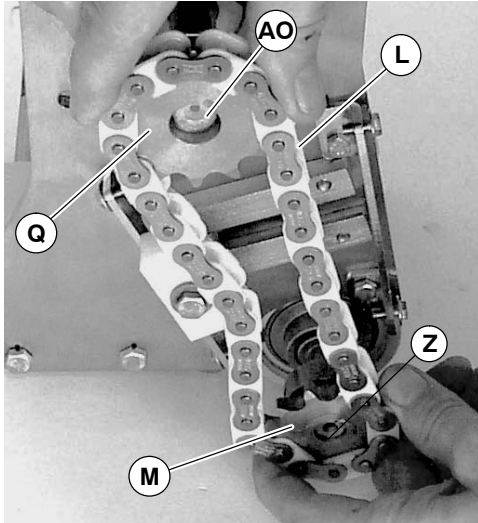

Figure 31
NOTE: Make sure sprocket keys are installed on conveyor input shaft (Z of Figure 31) and gear reducer output shaft (AO).
6. Install timing chain (L) over sprockets (M and Q). Install timing chain and sprockets on conveyor input shaft (Z) and gear reducer output shaft (AO). Do not tighten sprocket set screws.